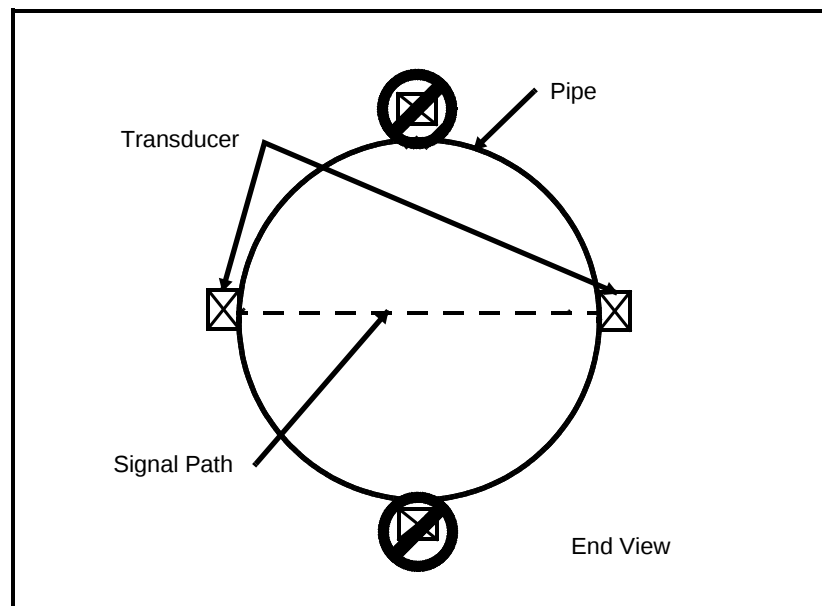

Figure 1-2: Transducer Placement
2. Place the transducers as close as possible to the horizontal plane. (see Figure 1-2 below). Locate the transducers on opposite sides of the pipe 180° apart, ideally at the 3 and 9 o'clock positions. **Do not place transducers on the top or bottom of the pipe.**